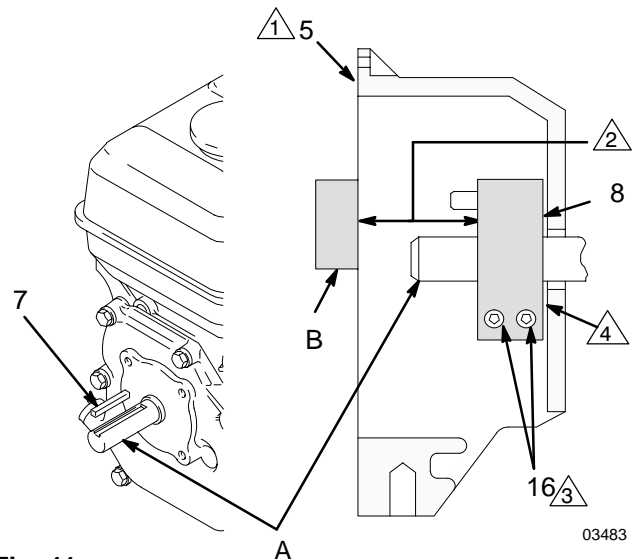

Fig. 11
1. Fig. 11. Loosen two screws (16) on clamp (8),
2. Push screwdriver into slot in clamp (8) and remove clamp.
1. Fig. 11. Install engine shaft key (7).
2. Tap clamp (8) on engine shaft (A) with plastic mallet.
3. Press clamp (8) onto engine shaft (A). Maintain dimension shown note 2 in Fig. 11. Chamfer must face engine.